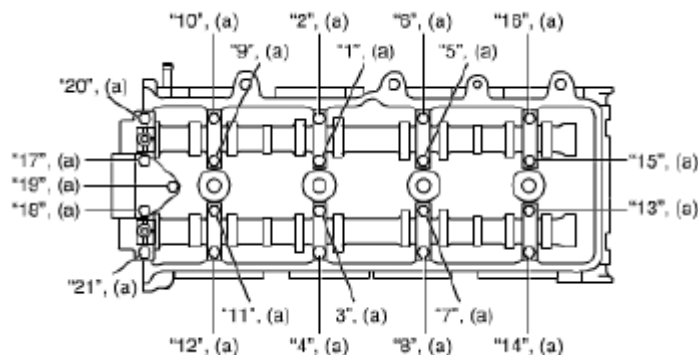

Fig. 98: Identifying Tightening Sequence Of Camshaft Housing Bolt
6. After applying oil to housing bolts, tighten them temporarily first. Then tighten them by following numerical order in **Fig. 98**.